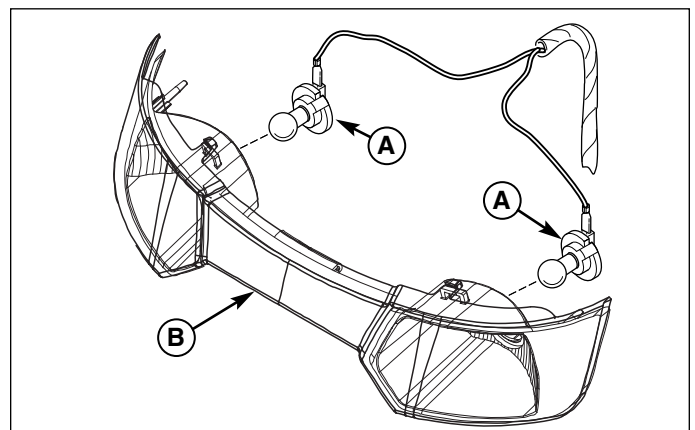
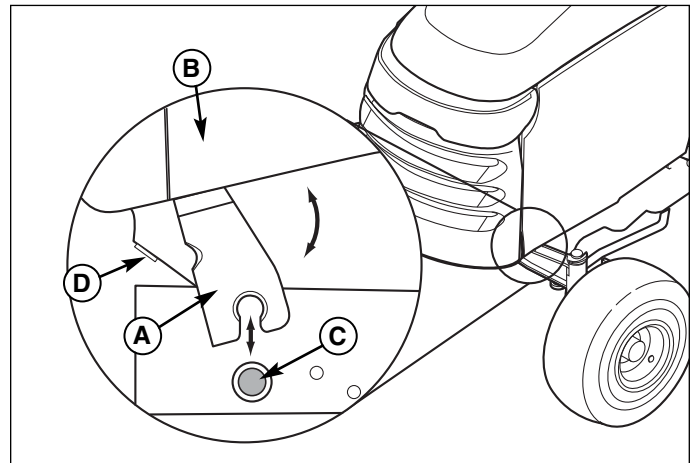

Figure 2. Head Light
Figure 5. Installation
2. Remove the socket and bulbs (A, Figure 2) by twisting the socket counterclockwise and pulling it out of the bezel (B). Repeat on other side.
1. Set hinge posts (A, Figure 5) onto pivot posts (C).
2. Roll the hood and grill assembly forward until it reaches the stops (D).
3. Install the socket and bulb (A, Figure 2) by pushing it into the bezel (B) twisting the socket and bulb clockwise. Repeat on other side.